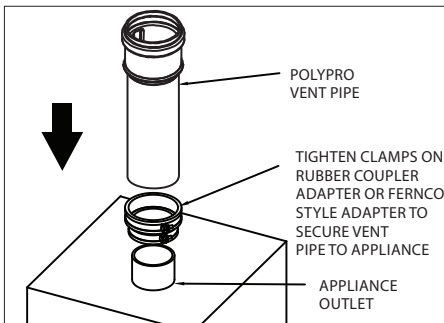

Figure 5
3. If the appliance outlet has a rubber boot or Fernco-style appliance adapter, then the PolyPro vent pipe may attach directly to the appliance (**Fig.5**).